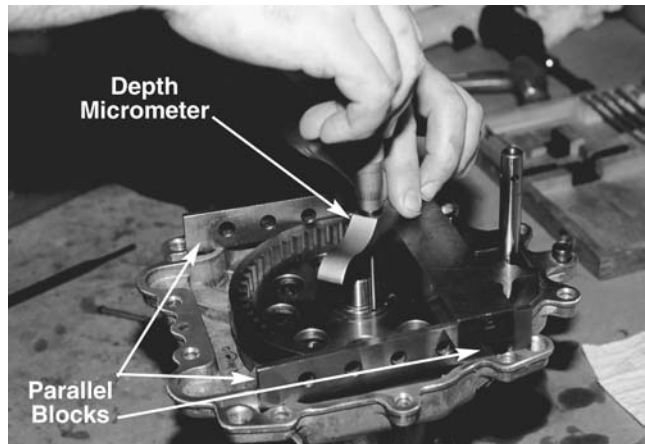

Figure 10-65.
25. Using parallels, measure the distance from the mating surface of the large housing down to the first shoulder on the axle shaft. Subtract the height of the parallels to arrive at the distance between the mating surface and shoulder. This measurement should be greater than the number for the smaller housing. See Figure 10-65.